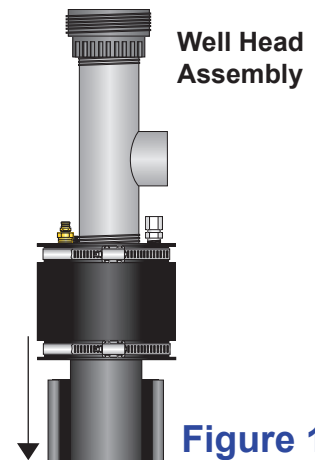

Figure 14
15. Remove pipe support tool and lower the wellhead assembly onto the well casing (Figure 14).